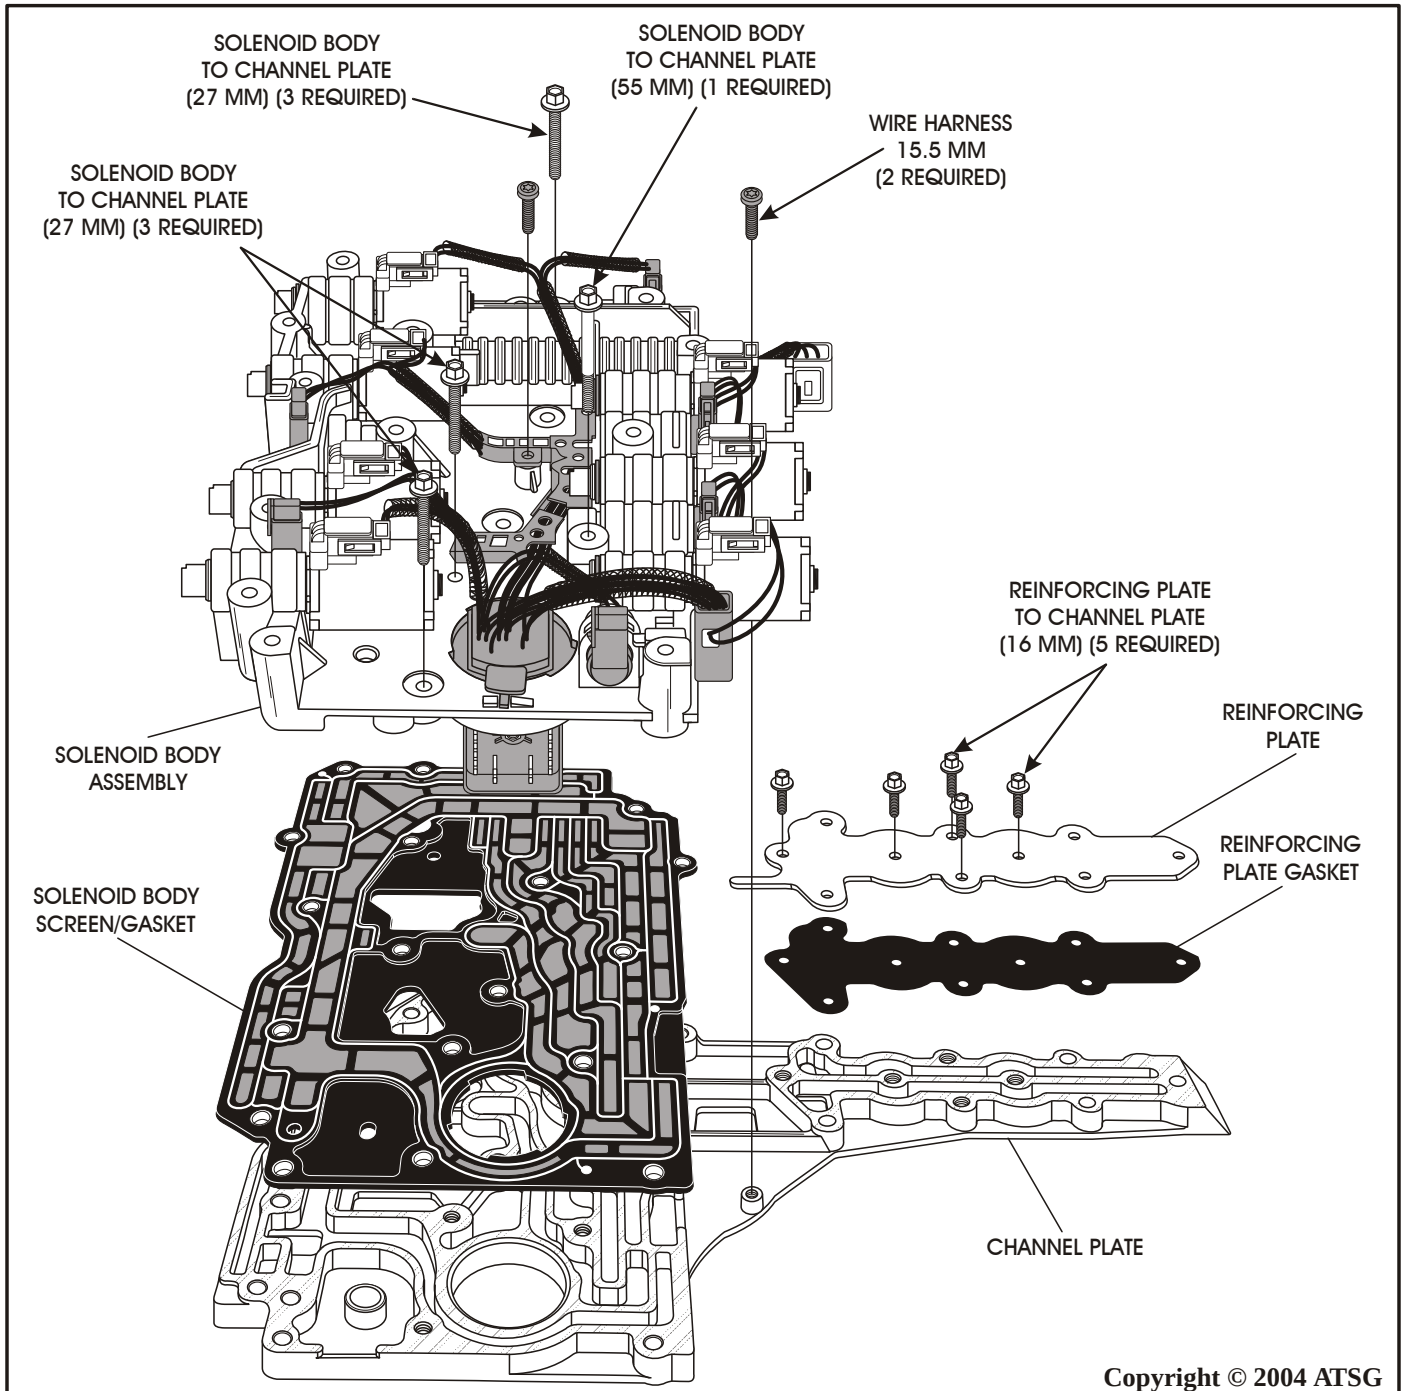

Figure 79
14. Install new reinforcing plate gasket on channel plate, as shown in Figure 79.
15. Install reinforcing plate and 5 bolts, as shown in Figure 79, and hand tighten only.
16. Install new solenoid body to channel plate screen/gasket, as shown in Figure 79.
17. Install the previously completed solenoid body assembly, as shown in Figure 79.
18. Install the 4 solenoid body to channel plate bolts in the locations shown in Figure 79, and hand tighten only at this time.
19. Install the wire harness to channel plate bolts as shown in Figure 79.